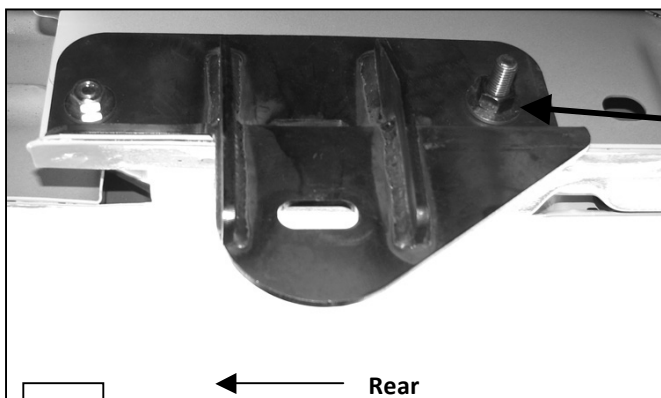

Fig 6
- a. **REGULAR CAB:** Select (1) 12mm Bolt Plate and thread (1) 11mm Plastic Retainer part way onto it. Insert the Bolt Plate and Retainer into the rear mounting hole, **(Figure 6)**. **IMPORTANT:** The Plastic Retainer is designed to prevent the Bolt Plate from falling into the body cavity and to aid in mounting the Bracket. Once inserted, thread the Plastic Retainer all of the way down to snug up against the body.
7. Hang the driver side Rear Mounting Bracket from the Bolt Plate and Retainer and secure it with the included (1) 12mm Lock Washer, (1) 12mm Flat Washer, and (1) 12mm Hex Nut, **(Figure 6&7)**. Insert (1) 10mm x 35mm Hex Bolt, (1) 10mm Flat Washer with (1) 10mm Plastic Retainer into the hole at the rear of the Mounting Bracket from the outside-in, **(Figure 8)**. **NOTE:** The Plastic Retainer is intended to protect the outer painted surface of the body. Thread the Plastic Retainer onto the Hex Bolt so that it is between the 10mm Flat Washer and the body. Secure the Bracket with (1) 10mm Lock Washer, (1) 10mm Flat Washer and (1) 10mm Hex Nut. Do not tighten hardware at this time.
8. Attach the Sidebar to the Mounting Brackets using the included (2) 1/2" x 2" Hex Head Bolts, (2) 1/2" Flat Washers, and (2) 1/2" Lock Washers. Do not tighten hardware at this time.